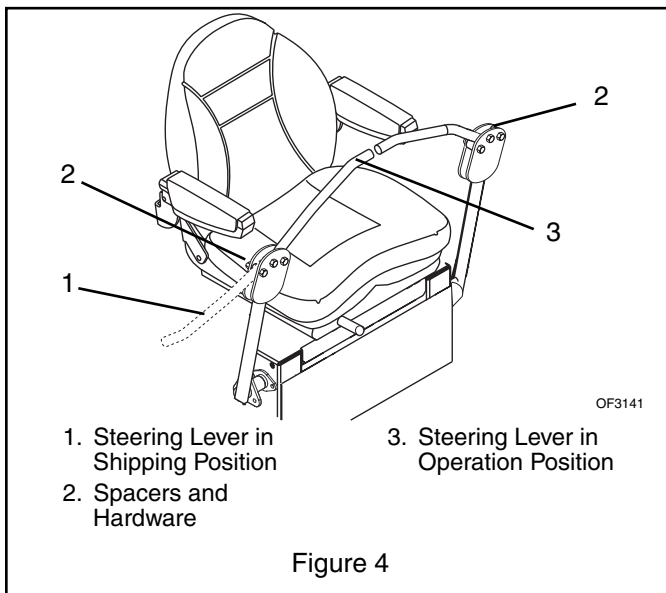

Figure 4
4. Position Steering Levers - Remove bolts and spacers from steering rod. Flip the steering levers into operating position. Reinstall spacers, bolts and nuts. Tighten hardware securely. See Figure 4.